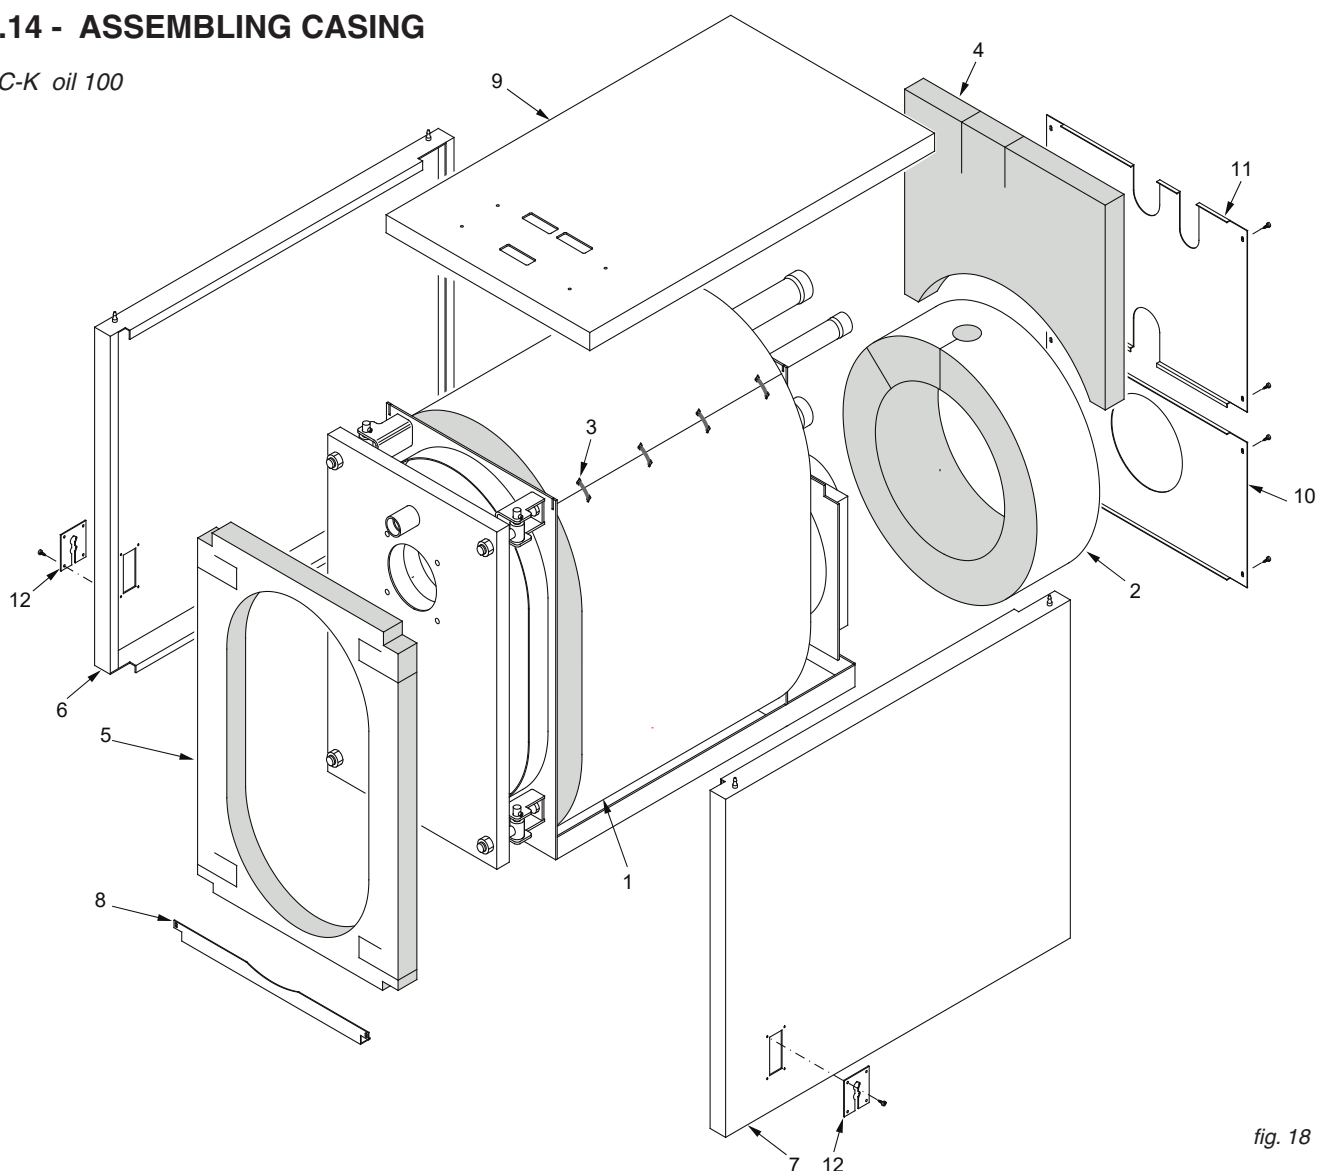

fig. 18
**N.B.** For models from **XC-K 124** to **XC-K 400** (ref. fig. 18 and 19), the casing and insulation are contained in 1 box marked:
#### Assembly sequence (Ref. fig. 18, 21)